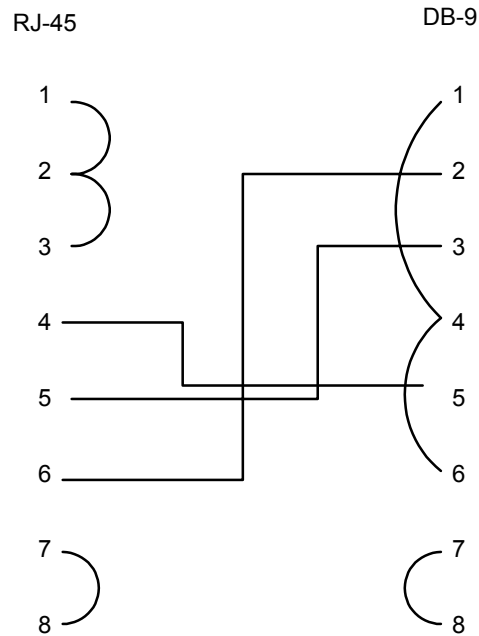

Figure 2-1. Null Cable (CBL-RJ-45/DB-9/Null) Pin Shorts
On the DB-9 connector, DCD (pin 1), DTR (pin 4) and DSR (6) are connected together. RTS (pin 7) is shorted together with CTS (pin 8). Refer *Figure 2-1*.